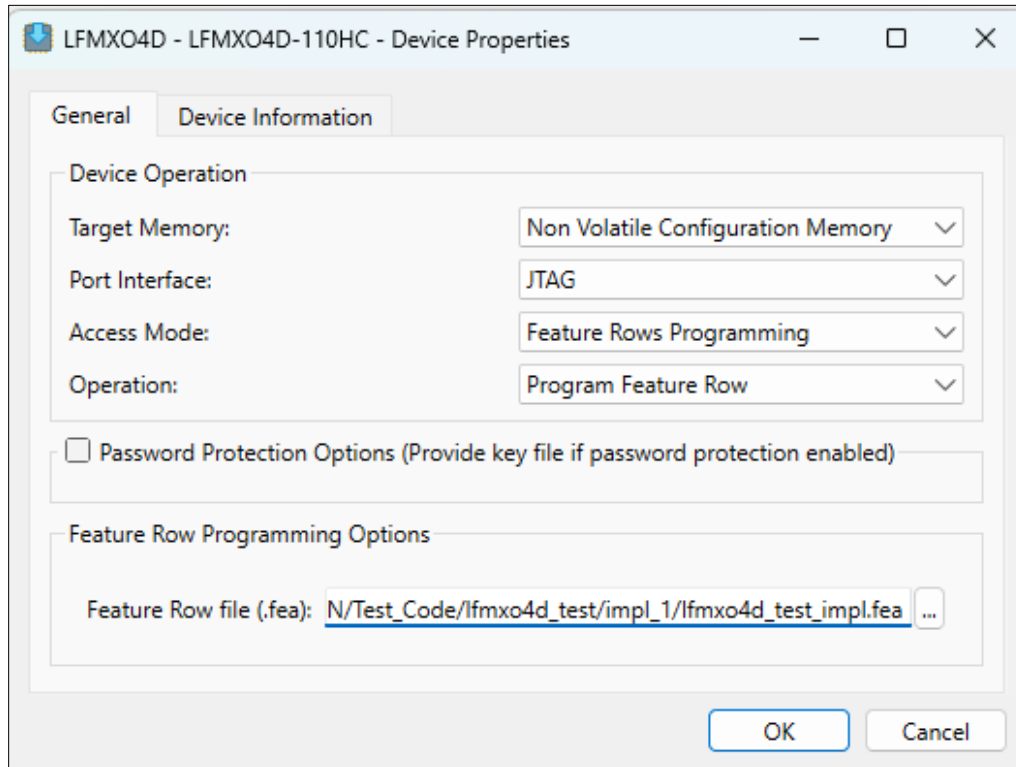

Figure 3.4. Bit file programming
- Double-click the **Operation** field, then select the appropriate programming mode. For example, select **Non-Volatile Configuration Memory (FLASH)**. See Figure 3.4.